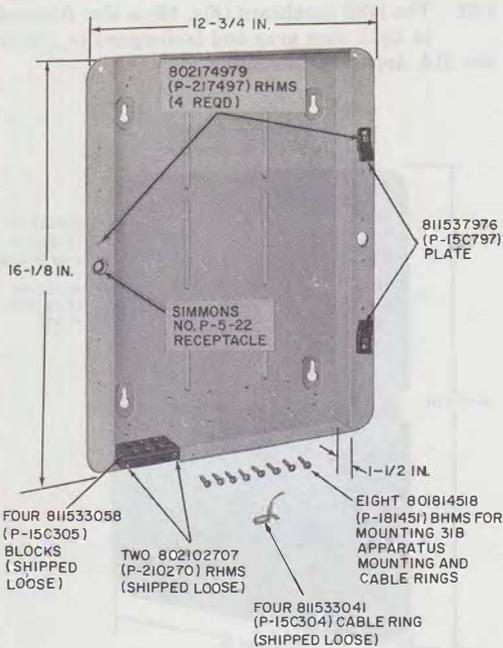
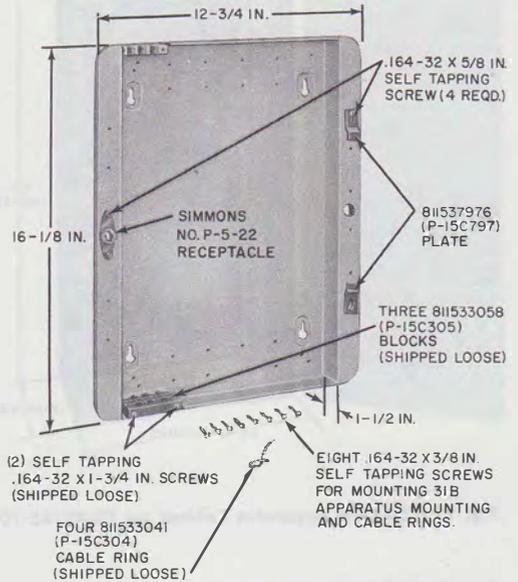

Fig. 20—177A Aluminum Backboard Assembly (MD)
Fig. 21—177A Fiberglass Backboard Assembly
5.03 The 177A die-cast aluminum (Fig. 20) backboard has been replaced by a fiberglass (Fig. 21) backboard. The fiberglass type requires self-tapping screws while the aluminum type requires machine screws for attachment. The 177A backboard is designed for use with the 31B apparatus mounting. A shallow dish-shaped recess provides space for mounting 66-type connecting block. The 811537976 (P-15C797) plates, drilled and tapped to permit right or left hinging of 31B apparatus mounting, may be mounted on either side to hold the gate in a open position. To adapt the 177A backboard for use with the 31A apparatus mounting, use the D-179862 kit assembly. It consists of a 177A backboard, two metal details, and two 66B1-25 connecting blocks.